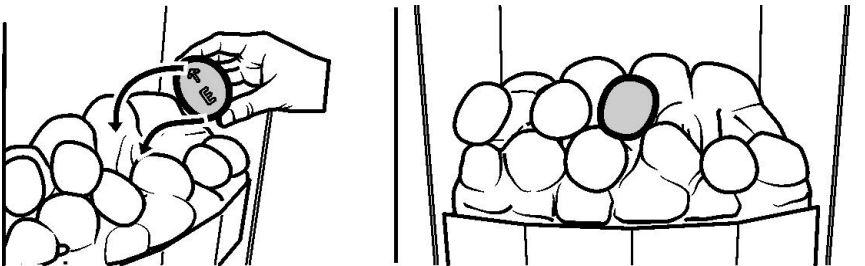

Figure 7.
7. Hold pebble 'E' upright with the arrow pointing to the top. Place pebble 'E' between the front and rear base pebbles. It should bridge the gap between the front and rear base pebbles (See figure 7).